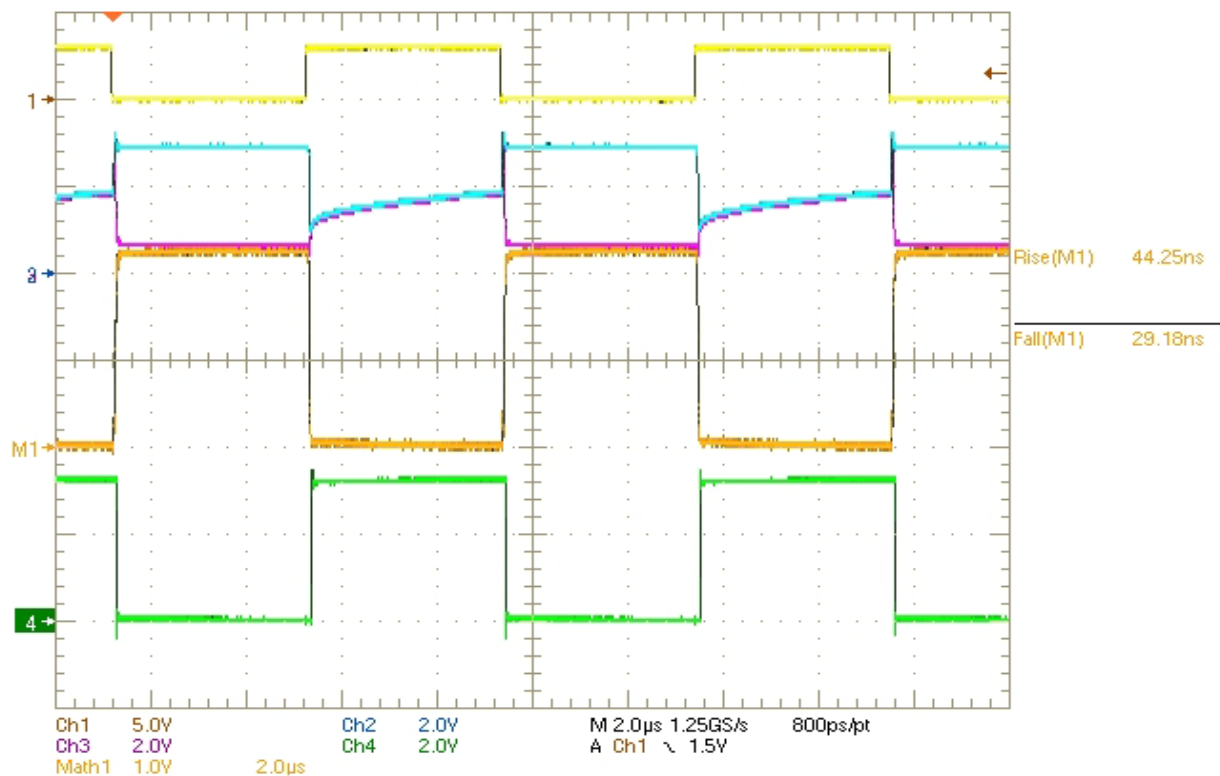
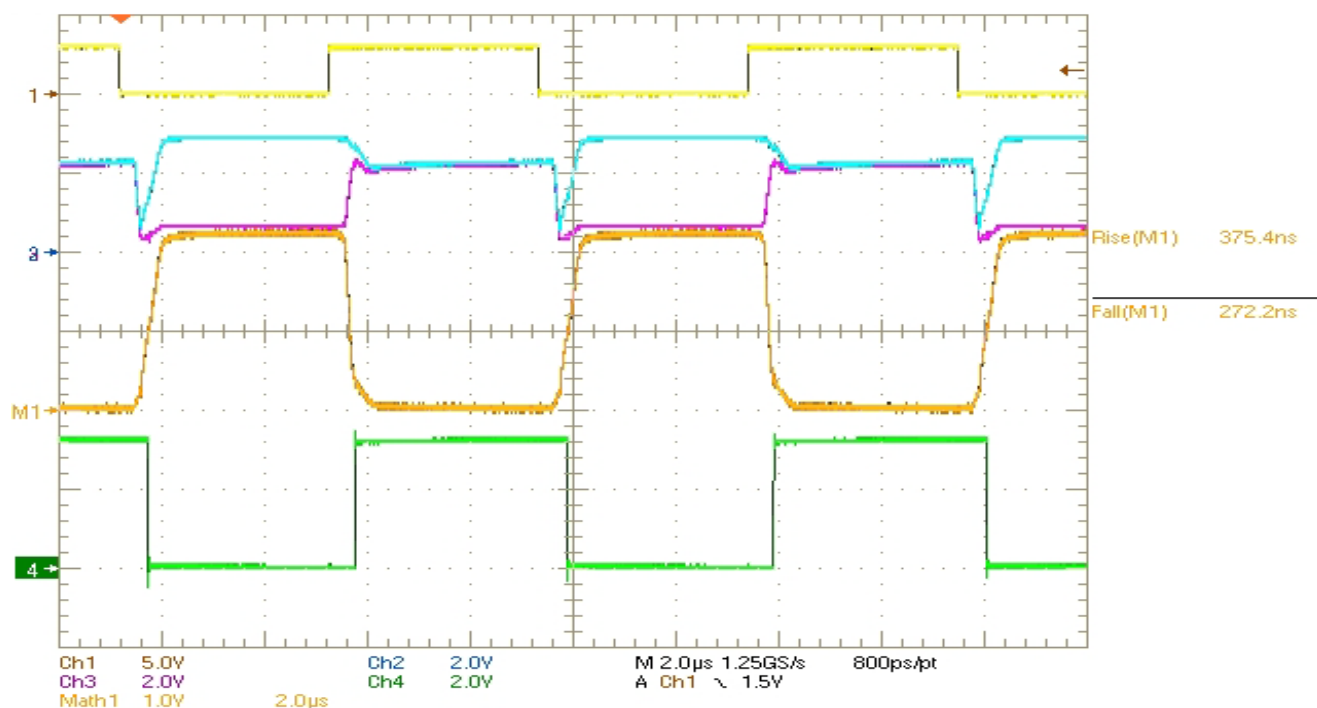
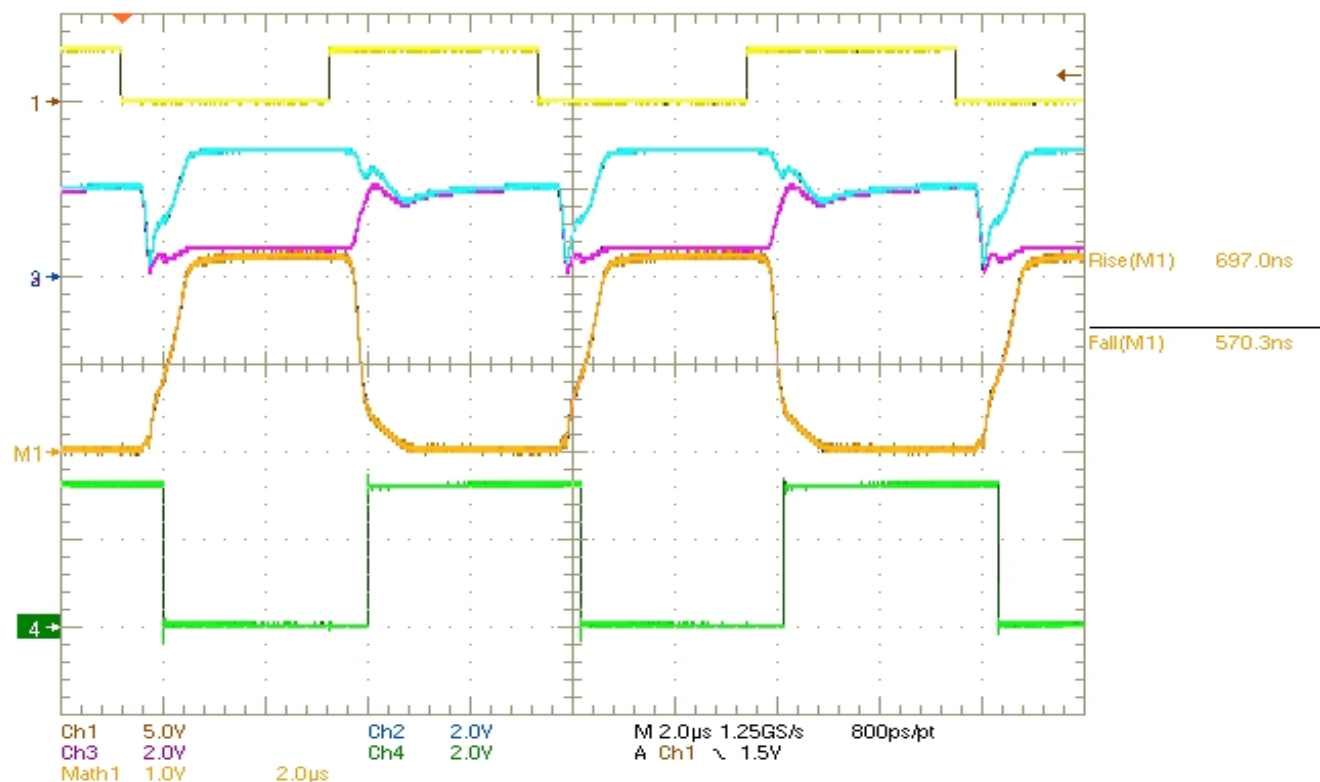

Figure 4.1 Oscilloscope Plot (Fast Speed) Waveforms and Measurements
Figure 4.2 Oscilloscope Plot (Medium Speed) Waveforms and Measurements
Figure 4.3 Oscilloscope Plot (Slow Speed) Waveforms and Measurements
- (5) Use the “Measure” menu on the oscilloscope to set up the following four measurements:
- (6) Ensure that a jumper is installed at J8 (selects fast driver edges by connecting the RS pin to ground) and no jumpers are installed at J5, J6, J7, and J9.
- (7) Enable the function generator. The scope plots should look like the ones shown in Figure 4.1 on page 9.
- (8) In fast speed mode ($R_S = 0V$):
- (9) Move the jumper from J8 to J7 (selects medium driver edges by connecting the RS pin to ground through a 10k Ω resistor). Note: No jumpers should be installed at J5, J6, J8, and J9.
- (10) The scope plot should look like the ones in Figure 4.2 on page 9.
- (11) In medium speed mode ($R_S = 10k\Omega$):
- (12) Move the jumper from J7 to J6 (selects slow driver edges by connecting the RS pin to ground through a 50k Ω resistor). Note: No jumpers should be installed at J5, J7, J8, and J9.
- (13) The scope plot should look like the ones in Figure 4.3 on page 10.
- (14) In slow speed mode ($R_S = 50k\Omega$):